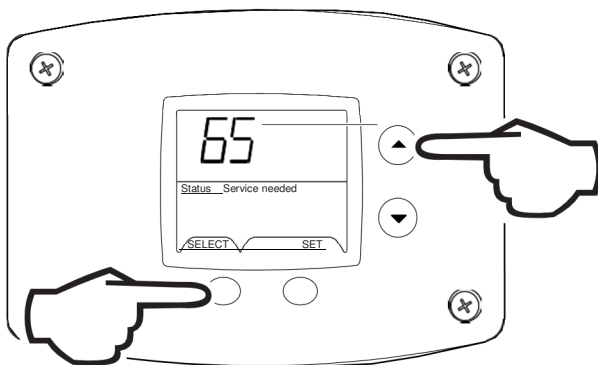

Fig. 63
1. Press for 3 seconds to enter service mode (Fig. 63).